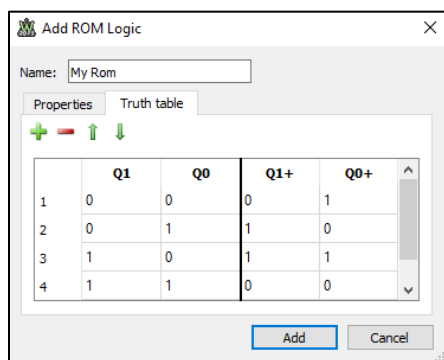
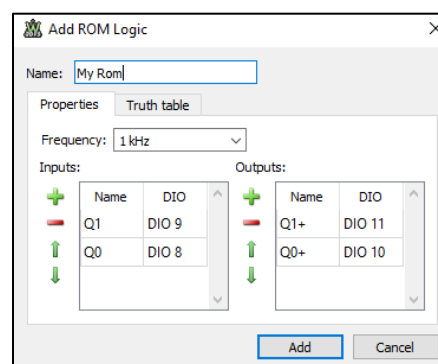

Figure 22: Setting up table on ROM
Figure 21: Setting up ROM
**ROM:** The DAD/NAD can be used to emulate ROMs (Read-Only Memory) using the Pattern Generator. Configure a ROM by selecting the green +, ROM. Give your ROM a name such as My Rom. Only Digital I/O signals 9-0 can be used as inputs, but all Digital I/O signals can be used as outputs. Under the properties tab you can add inputs using the green + under Inputs and add outputs using the green + under Outputs, see Figure 21. To enter data into the ROM, select the truth table tab and enter your data into the truth table, see Figure 22. Press add. See Figure 23.